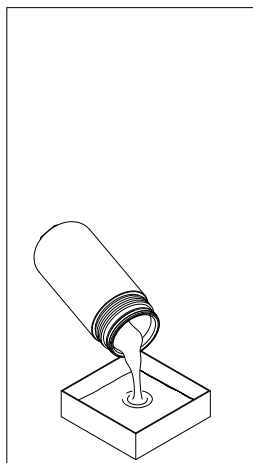

fig. 11
- (Fig. 11) Empty the operating fluid from the bowl into the collection vessel